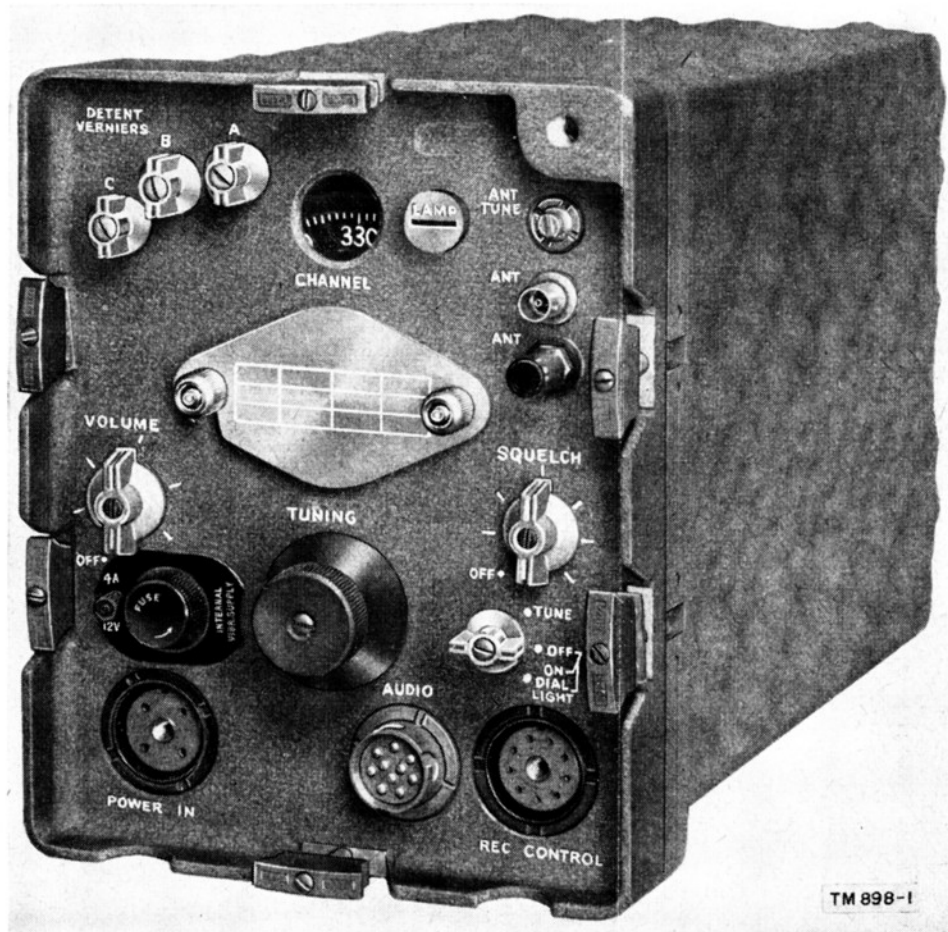

Figure 1. Radio Receiver R-108/GRC, R-109/GRC, or R-110/GRC, over-all view.
a. Radio Receivers R-108/GRC, R-109/GRC, and R-110/GRC (fig. 1) are small, lightweight, f-m (frequency-modulated), superheterodyne receivers designed for use in vehicular or ground installations. The receivers provide for the reception of voice-modulated f-m signals between 20 and 55 mc (megacycles). The receivers are alike except for the tuning range.
b. A front view of a typical one of the three receivers is shown in figure 1. The unit is a panel-and-chassis assembly with an outer case. All operating controls and cable connectors are mounted on the recessed front panel and are immediately accessible. The flange around the four edges of the panel protects the controls from damage due to impact. The flange is provided with cut-outs to accommodate the cables that attach to the receptacles at the front of the panel. Immersion-proof seals and caps insure a watertight assembly. The outer case is attached to the front panel by